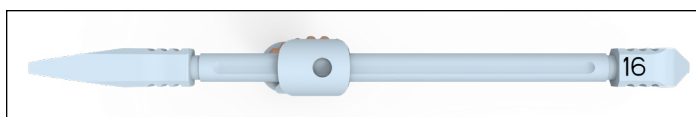

Figure 11
- In a native joint for a hinge procedure, where Triathlon Revision Baseplate is used, to maintain the joint line, the minimum tibial resection from the **native joint line is 16mm**. 16mm of bone will be resected with the initial proximal resection when using the “16” end of the Hinge Tibial Stylus (**Figure 11**).